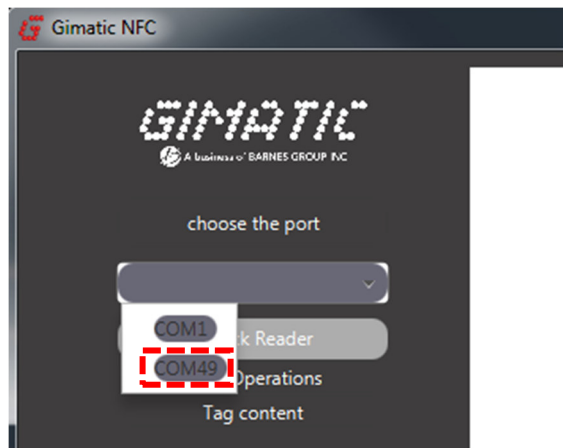

Figure 22
- Select the Serial ComPort of the RQCBOX (Figure 22).